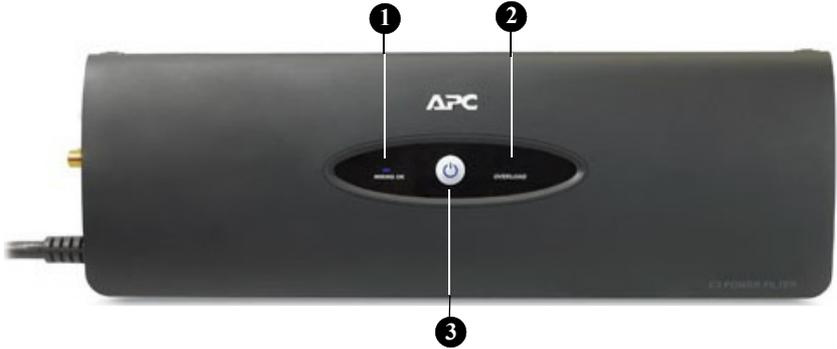

Figure 2. C3 Front Panel Controls and Indicators
The top panel controls and indicators for the C3 Power Filter are detailed in Figure 2. Each numbered callout refers to a corresponding numbered description found immediately below the picture.
Apply power to the C3 by pressing the front panel power switch in (shown as ③, in Figure 2), and then releasing the switch. Once power is applied to the unit, the front panel LEDs will illuminate.